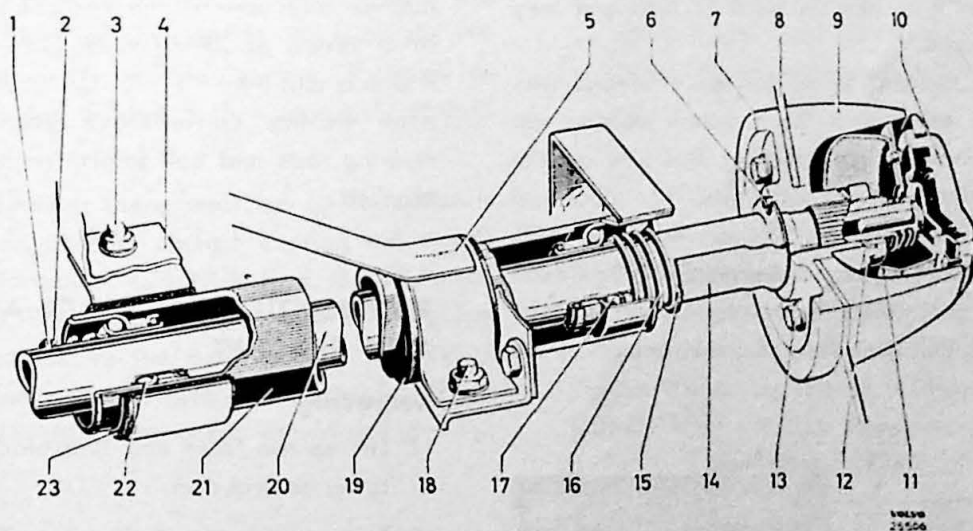

Fig. 6-29. Journaling of steering shaft
2. Unscrew the bolts (3, Fig. 6-29) for the lower attachment and the bolts (18) for the upper attachment. Pull up the jacket tube (21) slightly and remove the traffic indicator switch and lever, see Part 10. Then pull off the jacket tube from the steering shaft (20).
4. Check that the rubber bushings (19 and 23) for the jacket tube attachment are intact and that the locking ring (1) is located in its groove. Then fit the jacket tube and other parts in the reverse order to removing and as shown in Fig. 6-29. Tighten the steering wheel nuts to a torque of 25—35 lb.ft. (3.5—5.0 kgm) and do not forget to lock them.